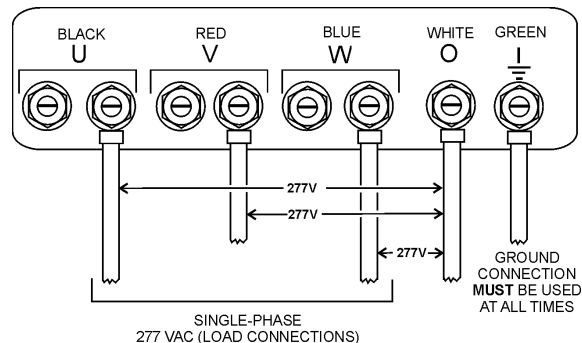

Figure 26. UVWU Terminal Lugs 1Ø-277V Connections
2. Connect the load wires to the UVWU terminals as shown in Figure 26.